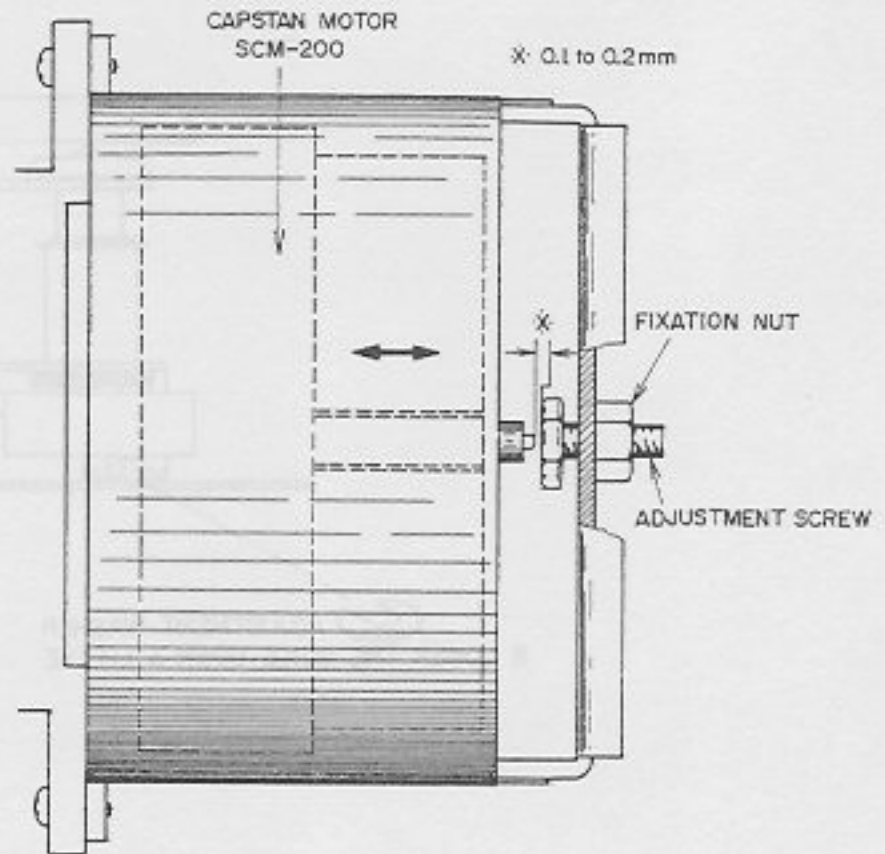

Fig. 13
3. CAPSTAN SHAFT LOOSE PLAY ADJUSTMENT (Refer to Fig. 13)